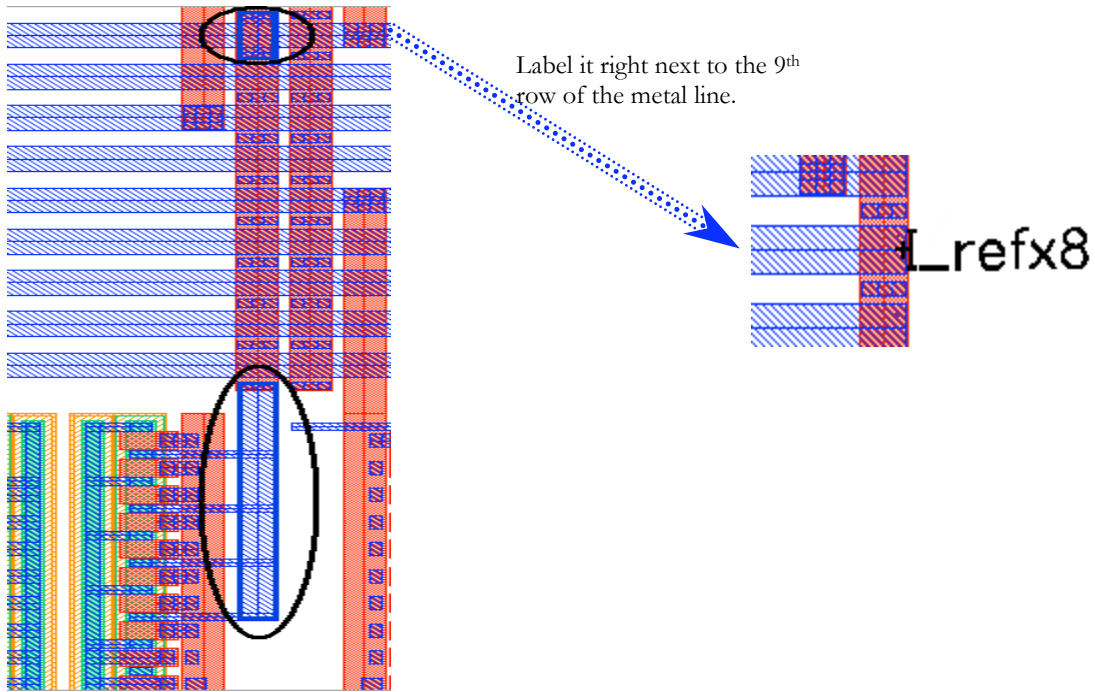

Figure 77: Signal routing and labeling for I_refx8.
17. Repeat step 12 to 15 for the next leaf, which according to the Bubble Schematic is **I_refx8** (Figure 77). Remember to create a label right next to the 9th row of metal line (from the bottom) for it (Figure 77).